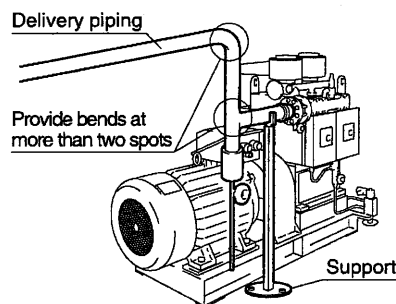

Fig. 13
- (4) As the delivery piping becomes hot and is expanded by heat, provide the bent section more than two on the midway of the piping so that expansion is flexible and provide appropriate support. (Fig. 13)